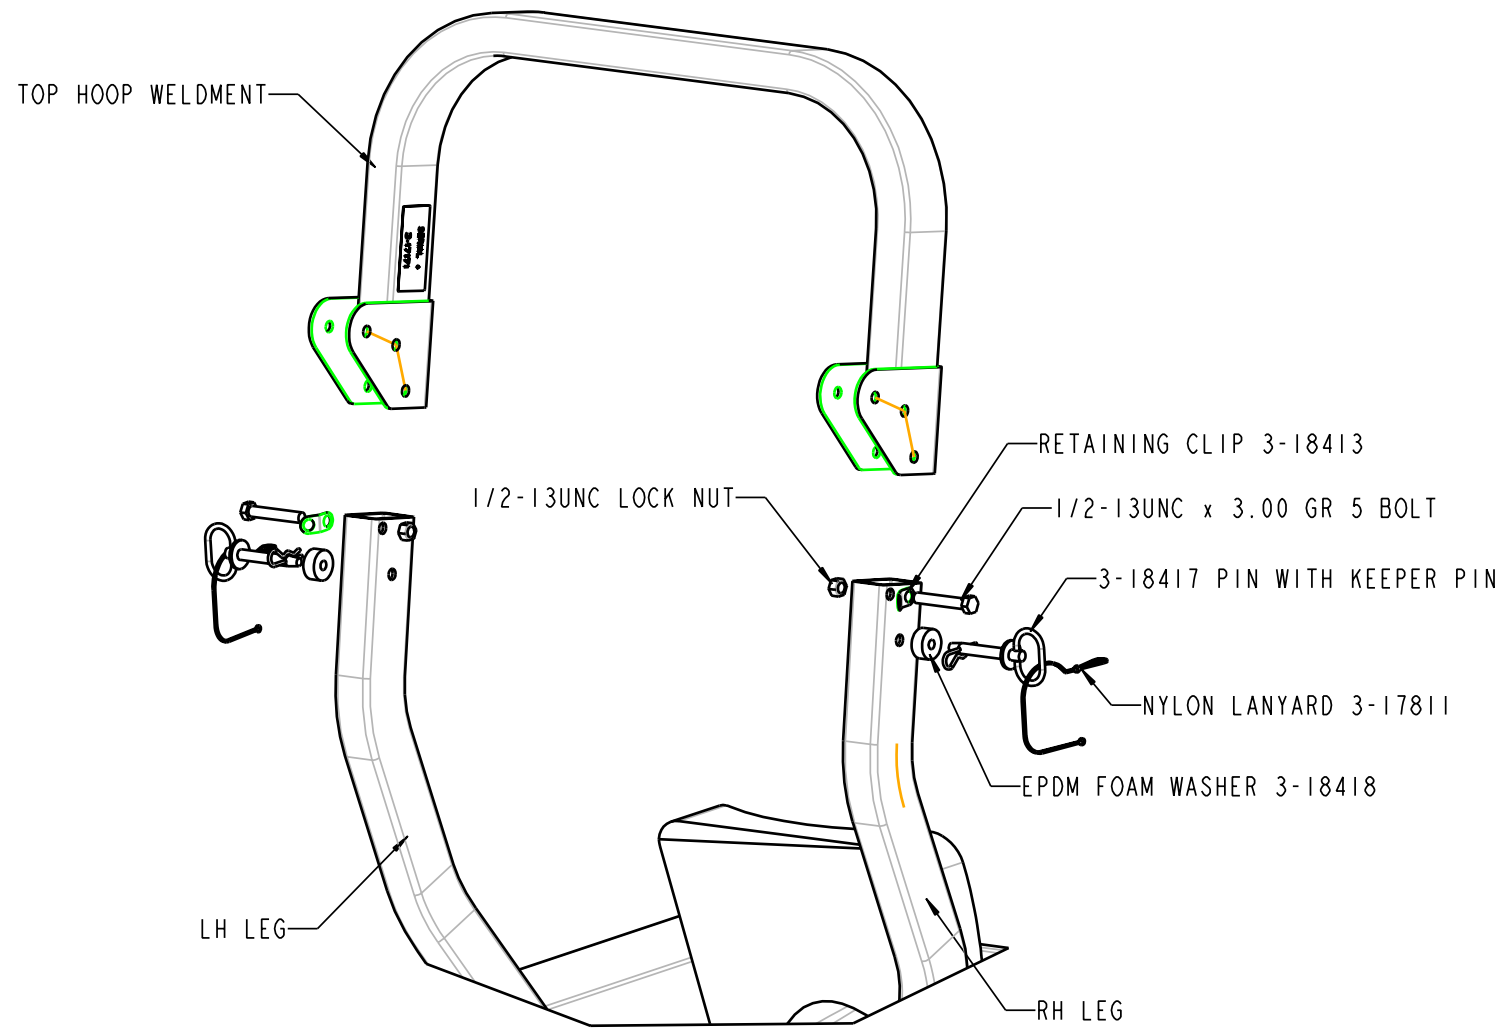

FIGURE 2
Upper Hoop Installation (Refer to Figure 2 for Steps 8-11)
- 8) Install the upper rollbar hoop. Secure each side of hoop with a $\frac{1}{2}$ -13unc x 3.00 grade 5 bolt, a pin retainer washer and a $\frac{1}{2}$ -13unc grade 5 center-lock nut into the upper mount hole. Tighten only until the nut contacts the bracket. Do not over tighten. Hoop should pivot freely, up and down. See Figure 2.
- 9) Install (1) EPDM washer onto each of the hitch pins. Position the top hoop into the up-right location and install the hitch pins. See Figure 2.
- 10) Attach (1) plastic lanyard to the handle of each hitch pin. Insert one end of the lanyard through the retaining washer and attach the spring pin to the eye in the lanyard. Install the spring pins into the hitch pins.